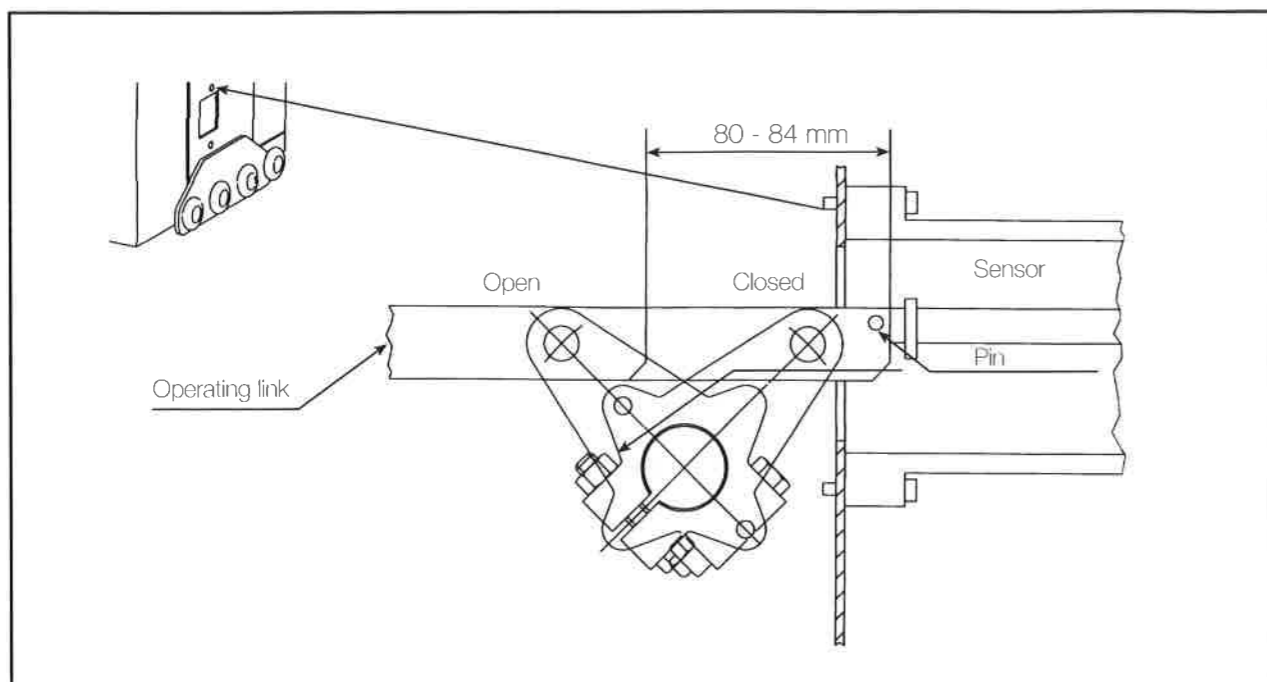

Fig. 11. Connection transducer.
1. Connect the transducer (article no. LV 899 361-R) on the coupling link of the breaking poles, see Fig. 11 (page 16).